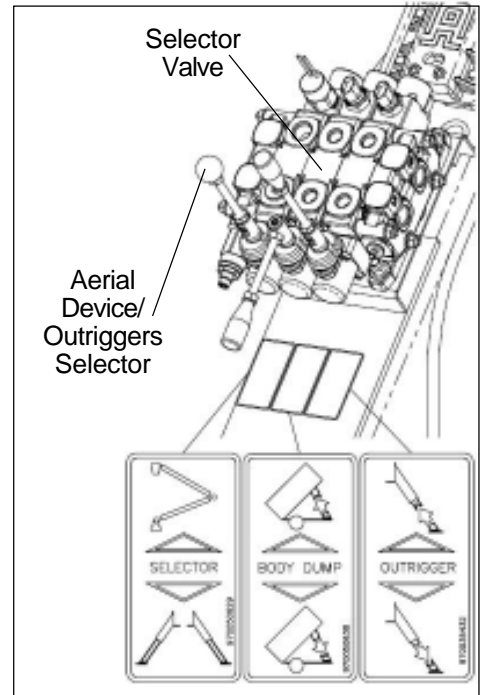

Figure 1 — Selector
4. Try to move the aerial device/outriggers selector to the aerial device operation position (refer to Figure 1). If the outrigger interlock is properly wired, the selector should not be able to be moved to the aerial device operation position. If the selector can be moved, the wiring is not correct.